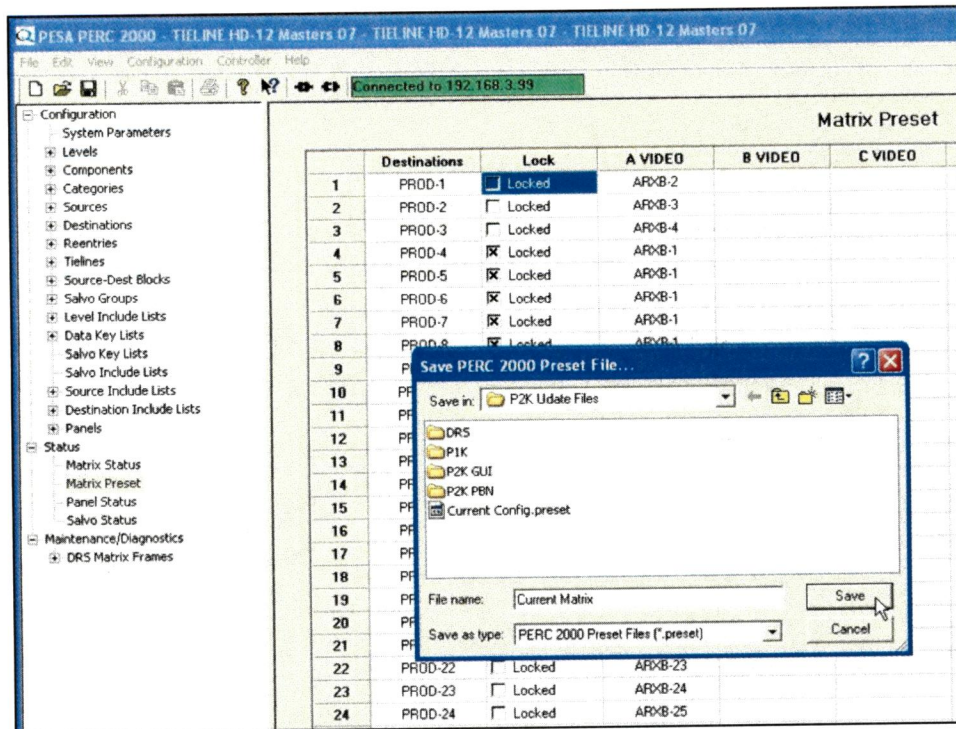

Figure 12. Save File Browse Box
10. The Save As box, Figure 12, is displayed. Select a folder for the file, give the matrix preset file a name and click **Save** to save the file on the host PC.